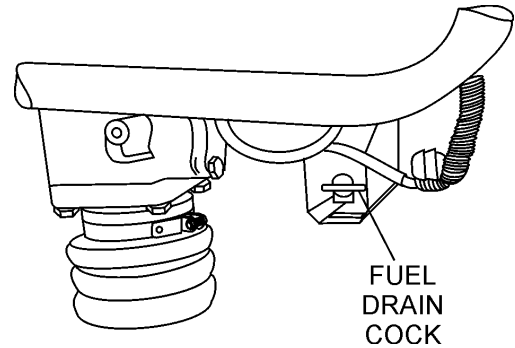

Figure 11. Fuel Drain Cock
9. If the carburetor is flooded or the crankcase is loaded with excess fuel, open the drain plug as shown in (Figure 11) and drain out excess fuel, then try and start engine.